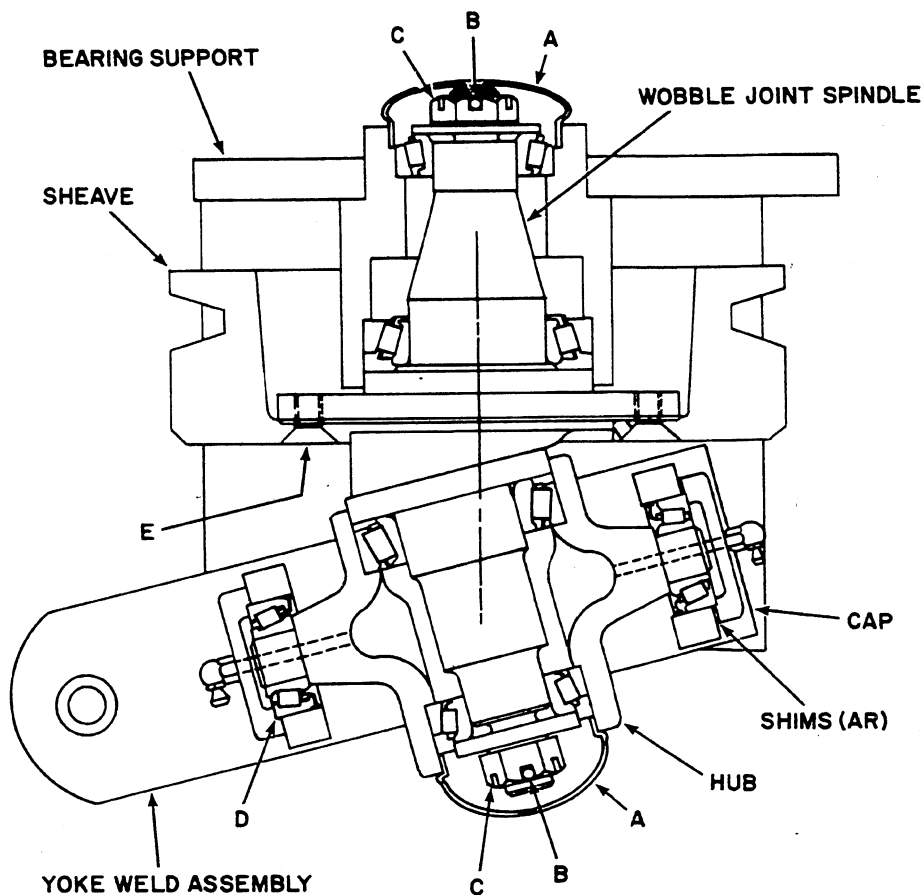

FIGURE 1
1. Remove the hub caps, A, Figure 1, and the cotter pins B.